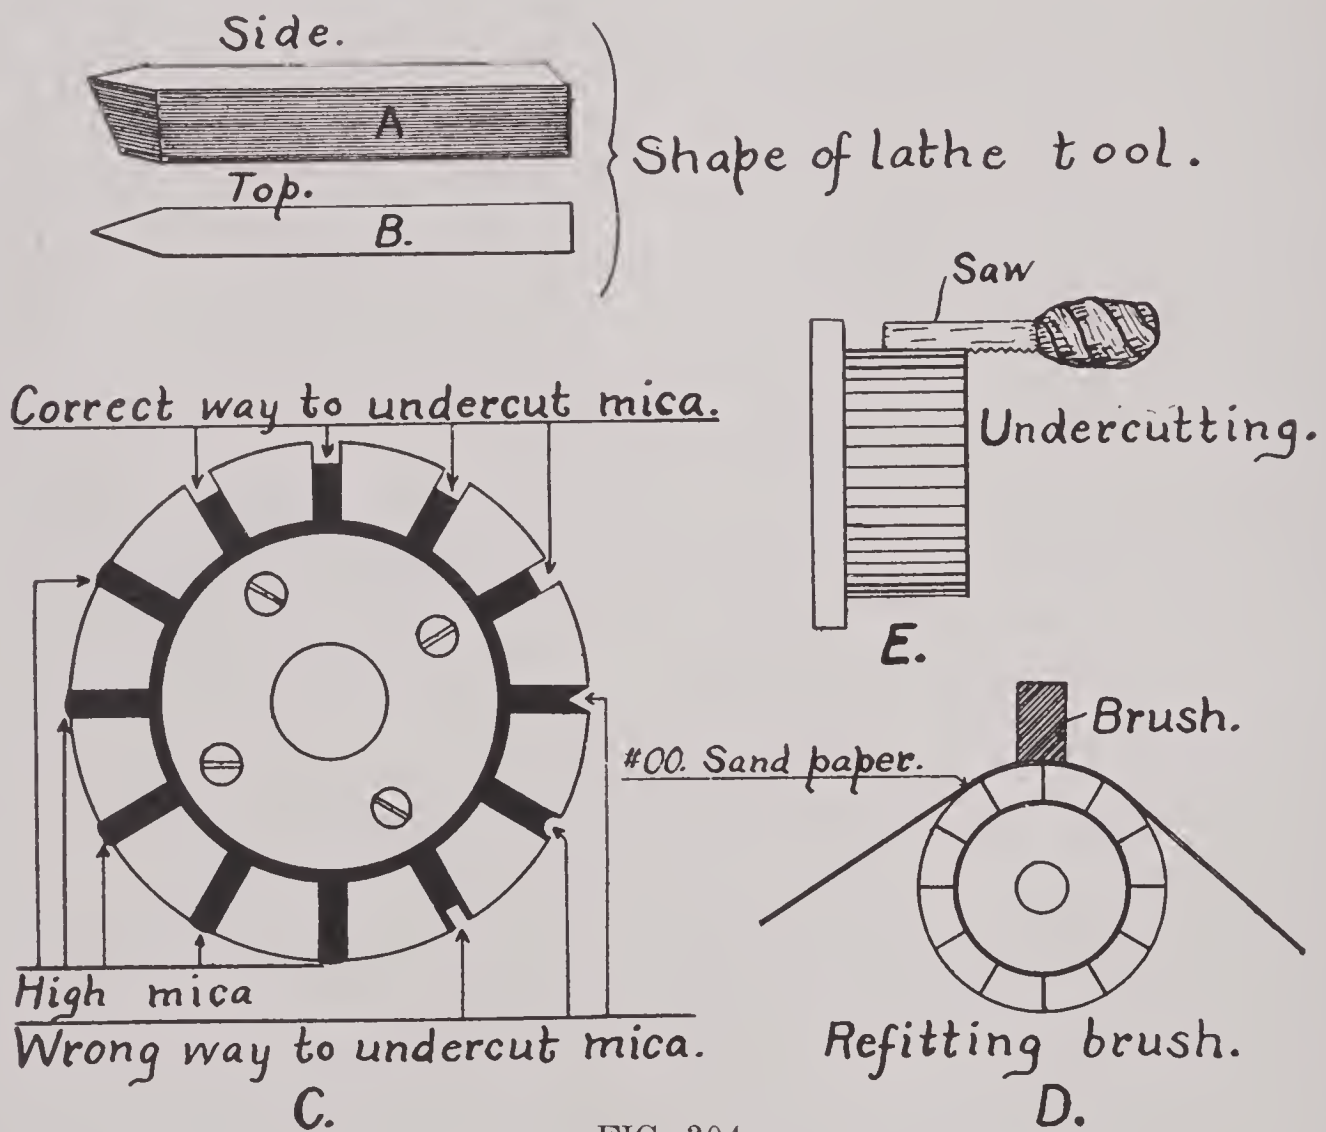

FIG. 304
To true up a commutator, it should be placed on the centers of a lathe and the surface turned off until it is accurate. The shape of the lathe tool is shown at the upper left in Fig. 304. It should have a keen diamond shaped point of approximately the shape shown in the illustration. Light cuts should be taken until the surface is made accurate. When making the last or finishing cut, the tool should have a very keen edge and the cutting point should be rounded slightly with an oilstone.
The finishing operation, after the final cut has been made, may be done with fine sandpaper. After the turning operation is completed, the mica between copper segments should be "undercut." The proper way to undercut the mica segments is shown at (C). The mica should not be undercut below the surface of the copper bars more than  $\frac{1}{32}$ ". This may be done with a piece of hacksaw blade with a suitable handle. (See (E) in Fig. 304.) If the hacksaw blade is too thick to fit between the copper segments, grind the sides of the blade on an emery wheel.